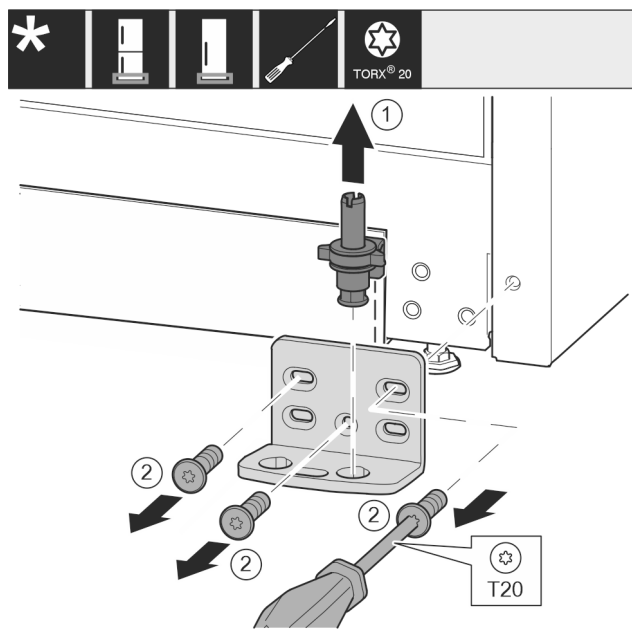

Fig. 15
- Lift the bearing pin completely upward and remove it. Fig. 15 (1)
- Remove the screws with the T20 screwdriver and take off the bearing bracket. Fig. 15 (2)